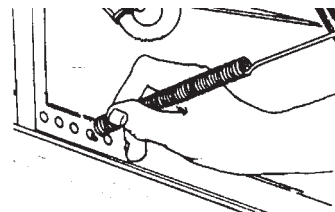

Fig. 1-21
2. Disconnect the end of the door springs from the door spring tension adjustment holes in the frame runner. Note which holes were used and reattach the door springs in the same holes when the repairs are complete. (*Fig. 1-21*)